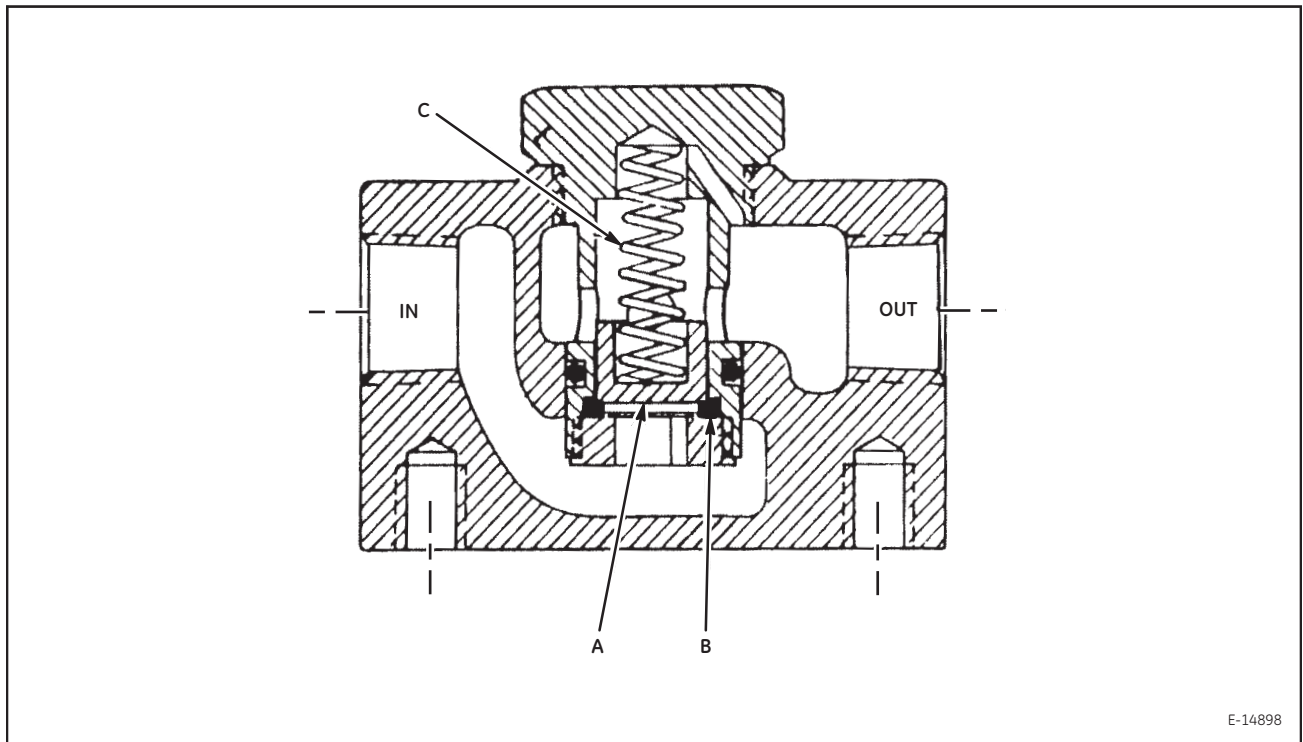

Figure 10. Cross Section View of Typical One-way Check Valve
**NOTE:** *Letters in parenthesis ( ) refer to items found in Figure 10 in this publication, unless otherwise noted.*
Within the one-way check valve, air enters at the inlet port, moving shuttle (A) off its seat (B) and out the outlet port (Figure 10). Reverse air flow is checked by the shuttle. Spring (C) assures the shuttle will seat regardless of the position of the valve. Approximately 0.75 psi (5.2 kPa) of air pressure at the inlet port is required to lift the shuttle off its seat.